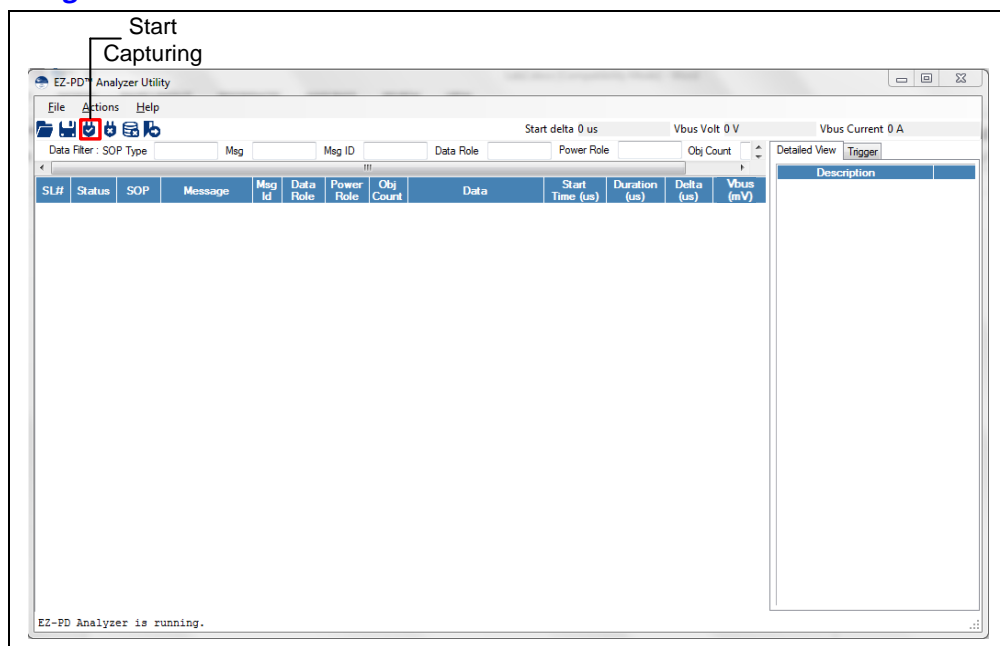

Figure 22 Connect the EZ-PD Analyzer to PC
- Open the EZ-PD Analyzer Utility and click the **Start Capturing** icon to take the CC trace as shown in Figure 22.